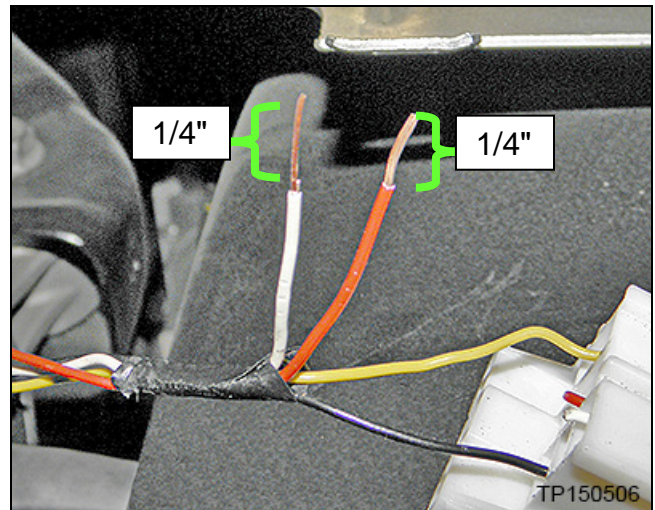

Figure 7
9. Strip approximately 1/4" of insulation from the ends of both the red and the white wires (Figure 7).